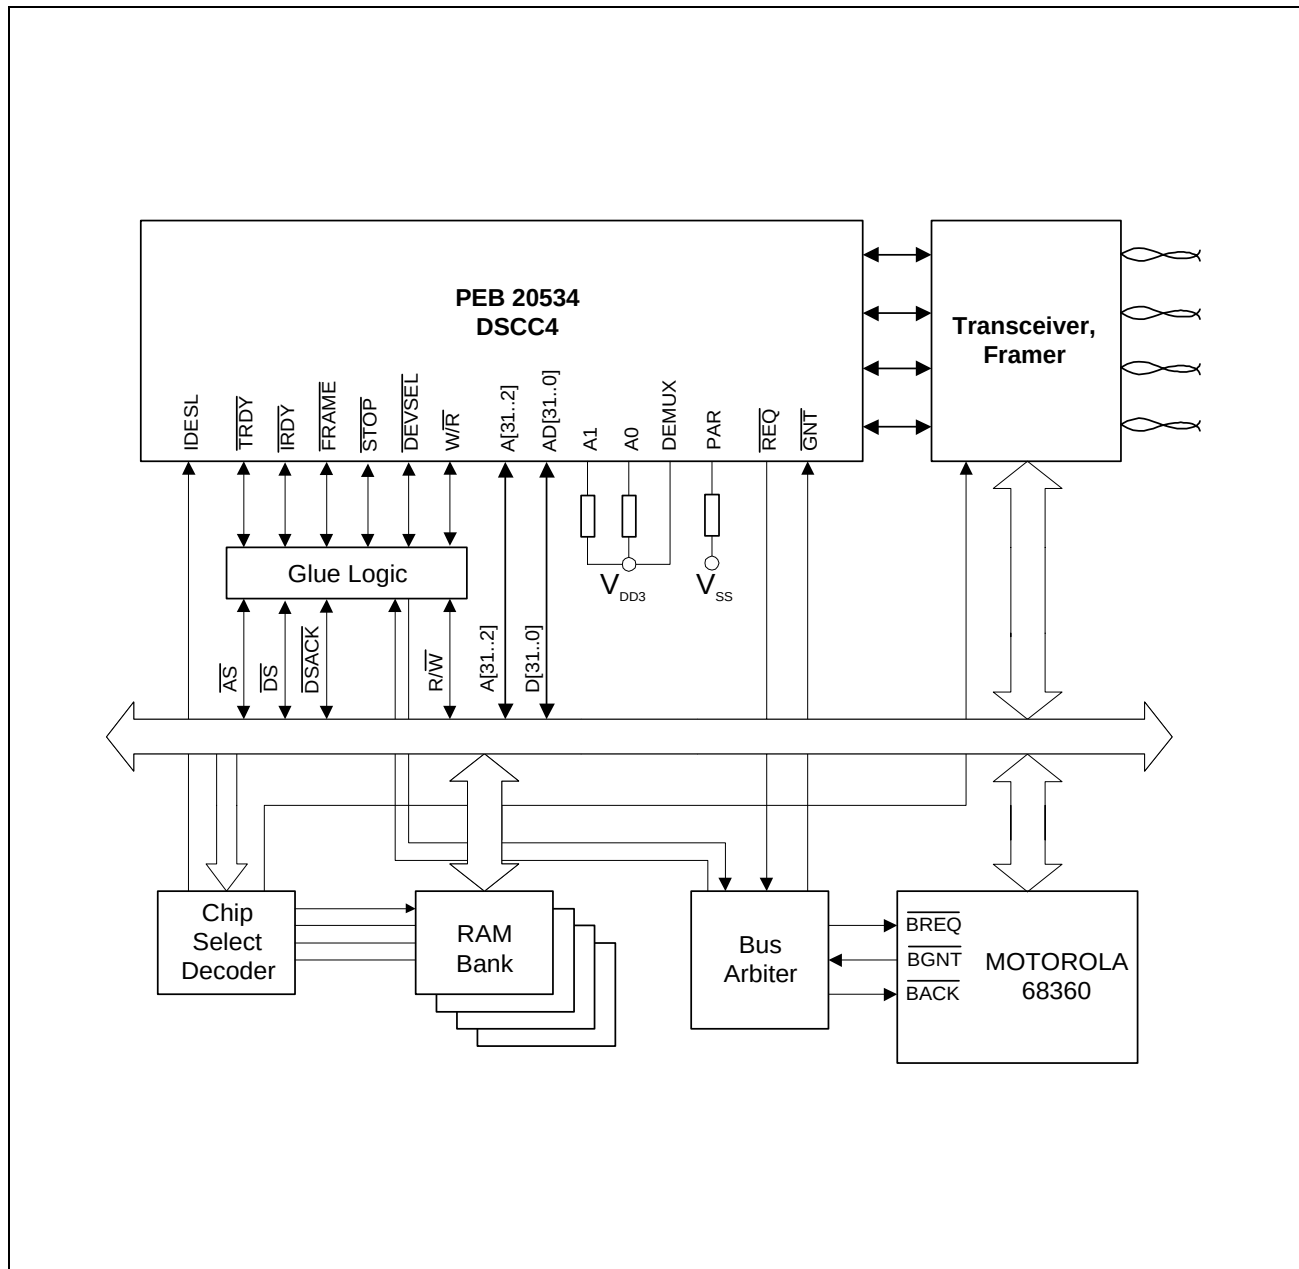

**Figure 3 General System Integration (De-multiplexed Interface)**
**Figure 3** provides an overview upon system integration in a non PCI bus environment by the example of a Motorola 68360 CPU bus:
The glue-logic depends on the host bus which the DSCC4 should be connected to. The example in **Figure 3** shows the glue-logic for connection to an Motorola 68360 like de-multiplexed 32 bit bus.